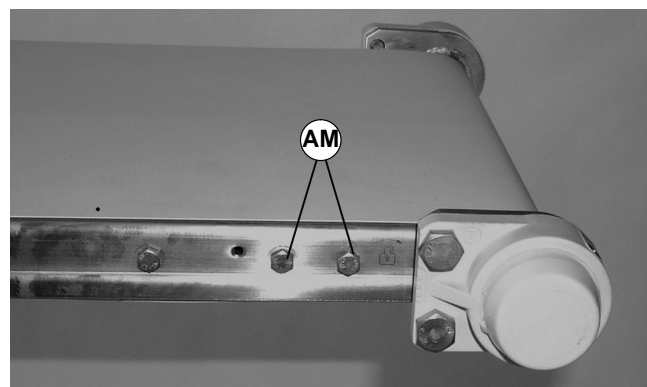

Figure 18
4. Loosen four M6 hex head cap screws (AM of Figures 18 and 19).